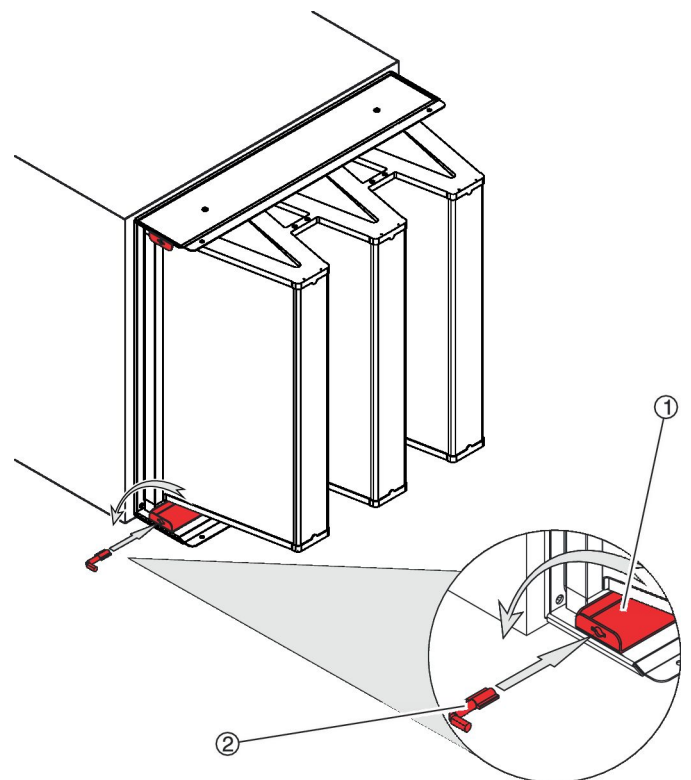

Fig. 61: Inserting the special key
3. ▶ Insert the special key ( Fig. 61 /2) into the recess of each clamping rail ( Fig. 61 /1) and turn it anti-clockwise by 90°.